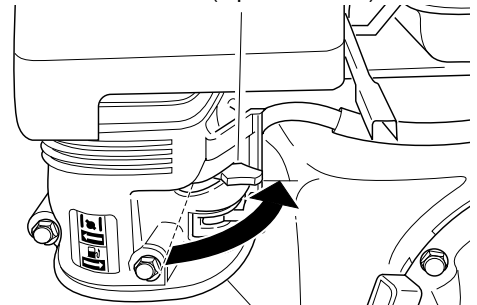

Figure 21 - Choke Lever Opened (Model MGH7000D Shown)
5. As engine warms up, slowly move choke lever fully to the right (see Figure 21). This opens the choke. On Model MGH10000A, the choke will automatically open.